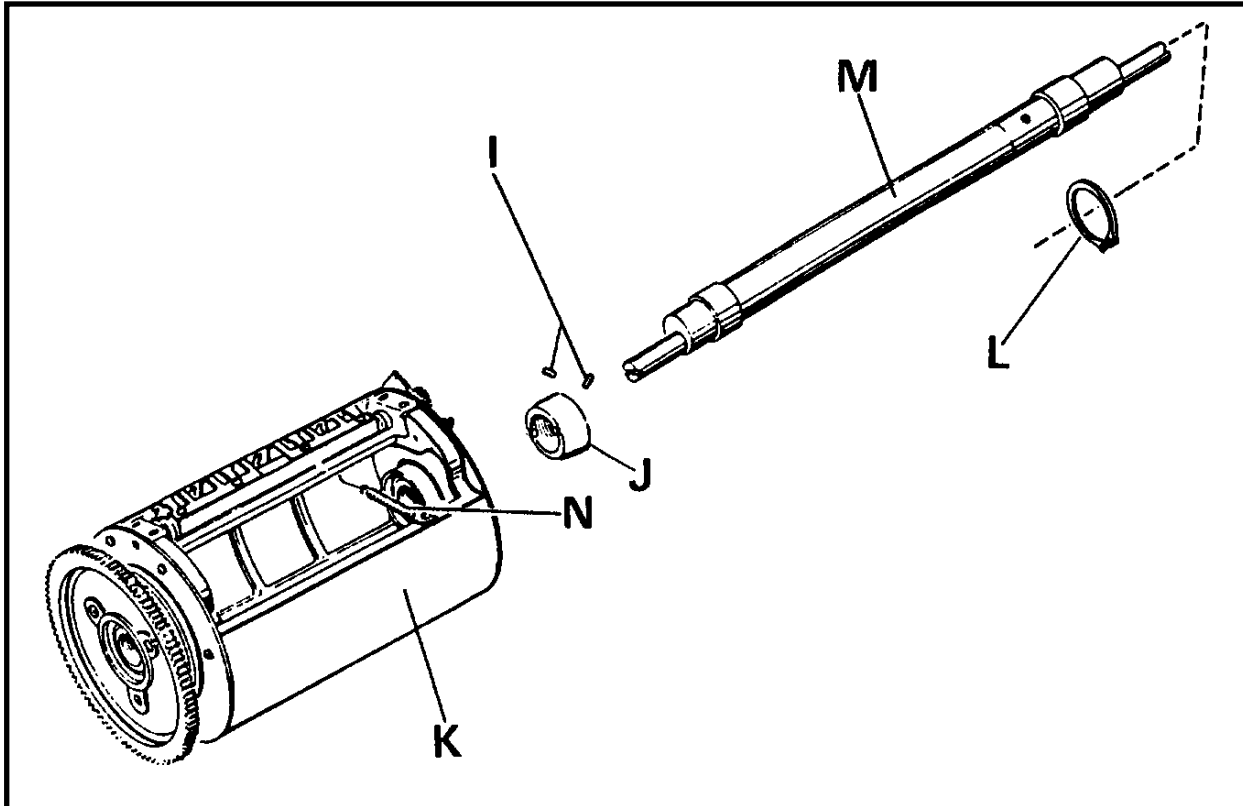

Figure 82 - Impression Cylinder & Impression Cylinder Shaft
11. Completely remove the two setscrews (I) from the collar (J) located inside the impression cylinder (K). Remove the "C" ring (L) located on the impression cylinder shaft (M) (see Figure 82).
12. Remove the impression cylinder shaft (M) from the operator side.
1. Install the collar (J) inside the impression cylinder with the beveled end facing the operator side (see Figure 82).